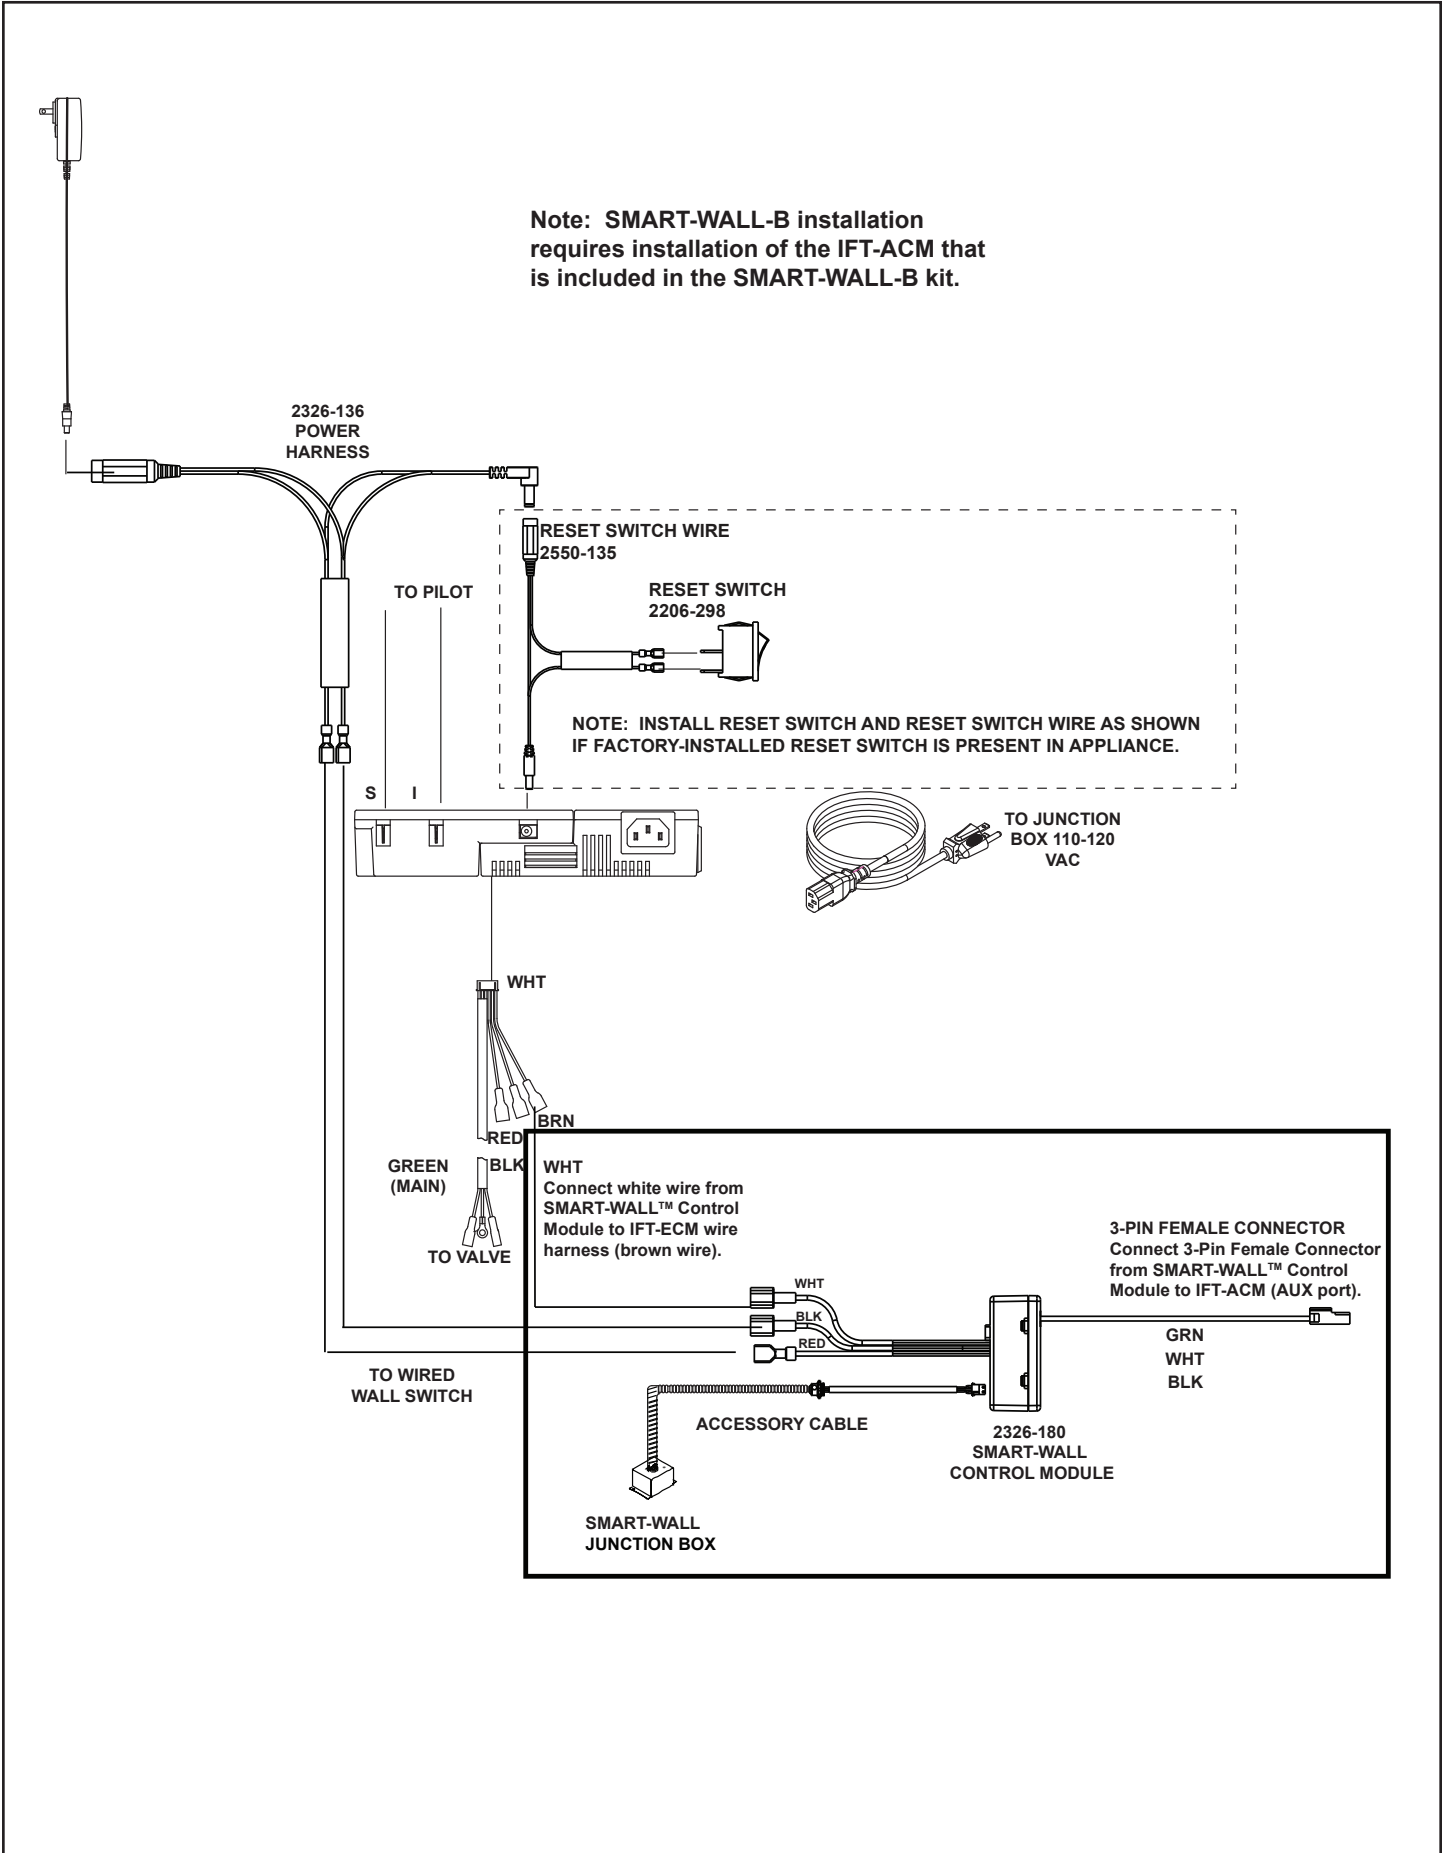

Figure 11. SMART-WALL-B Control Module Detail
- If the IFT-ECM shows a 5 RED LED ERROR code, verify that all wiring connections have been made per Figure 10 and Figure 11.